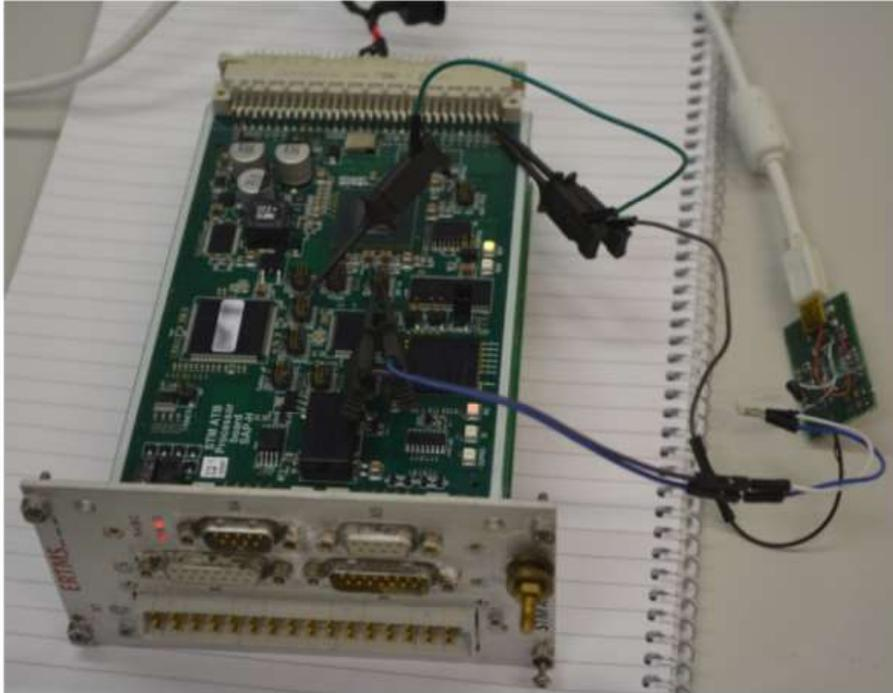

Figure 30: Hardware connections for loading the software on the netX processor [Figure 2250A <<vervangen>>]
- Using the bootloader X1500 jumper (Figure 30, ¶ STMA-69131);